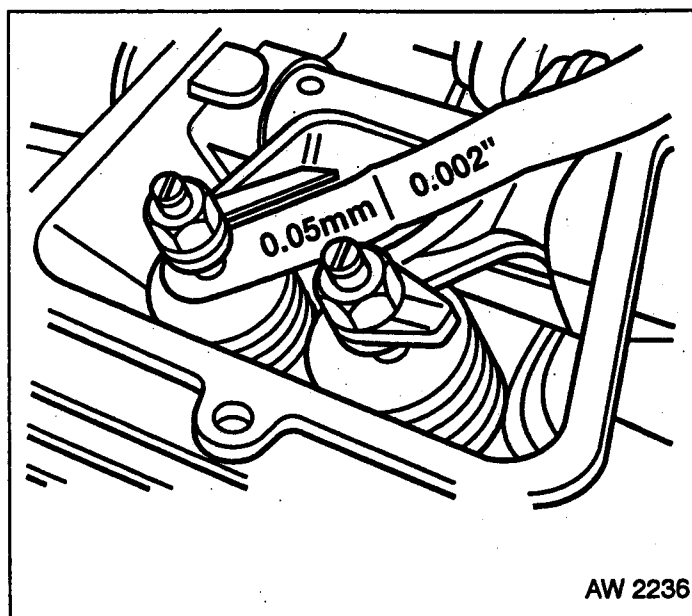

Fig 2.24 Valve Clearance
j. With engine in set position, adjust all (4) valve clearances to .05mm (.002") cold. Fig 2.24 refers. Replace valve access plates (crankcase breather to rear position) ensuring cover seals are in good order. Replace timing belt outer cover.